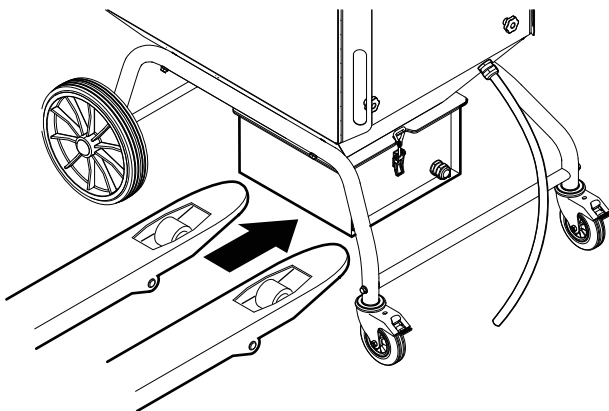

Fig. 26
1. Manoeuvre a suitable pallet truck underneath the dust collector, see **Fig. 26**.